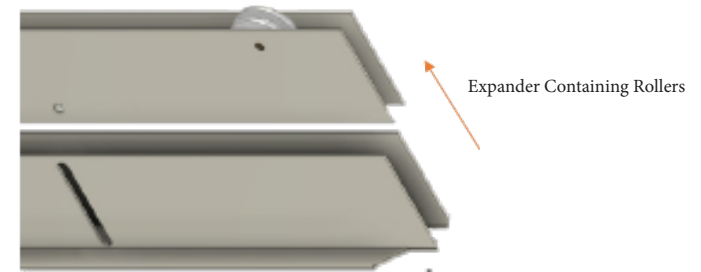
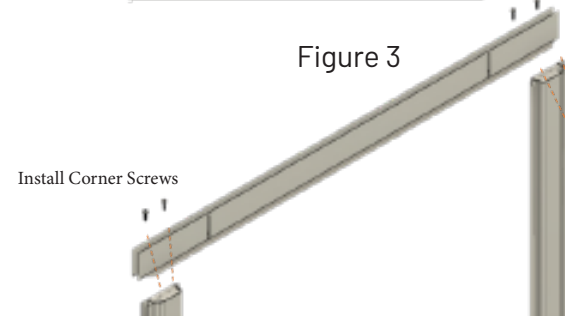

Figure 3
Figure 4
STEP 2.....Remove expanders that are taped inside the short top & bottom rail pieces (FIG. 3) and fasten top/bottom rails to long side pieces (FIG. 4).
2. Place the top/bottom rail against the long side piece which contains the corners in both ends (FIG. 4). Make sure to orient both pieces as shown, aligning the screw holes in the top/bottom piece with the "dimples" in the corner. Using a Power Drill with a 2.5" #2 driver, install (2) No. 8 x 3/4" screws (the LONGER screws provided), through the holes in the top/bottom rails and into the corner dimples in the long piece. Then attach the other end of the top/bottom rail to this long piece similarly.